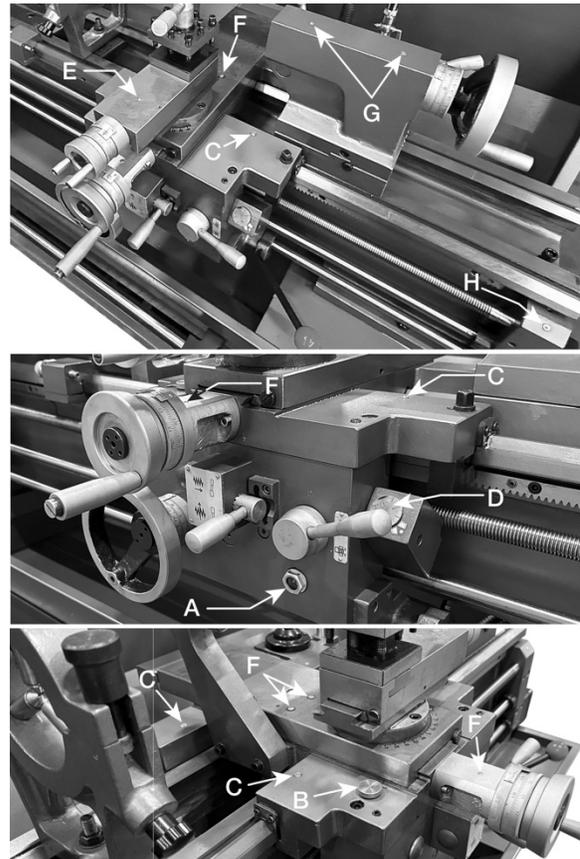

Figure 8-4
5. **Apron** - Oil must be up to indicator mark in oil level sight glass (A, Figure 8-4). Top off with Mobil DTE® Oil Heavy Medium. Fill by removing oil filling plug (B, Figure 8-4). Drain oil by removing drain plug located on the bottom of the apron. Make the first oil change after operating three months. Then, change oil annually.
6. **Carriage** - Lubricate ball oilers on both sides of the carriage (C, Figure 8-4) once daily with Mobil DTE® Oil Heavy Medium.
7. **Threading Dial Indicator** - Lubricate ball oiler (D, Figure 8-4) once daily with Mobil DTE® Oil Heavy Medium.
8. **Compound Slide** - Lubricate ball oiler (E, Figure 8-4) once daily with Mobil DTE® Oil Heavy Medium.
9. **Longitudinal and Cross Slide** - Lubricate ball oilers (F, Figure 8-4) once daily with Mobil DTE® Oil Heavy Medium.
10. **Tailstock** - Lubricate two ball oilers (G, Figure 8-4) once daily with Mobil DTE® Oil Heavy Medium.
11. **Leadscrew/Feed Rod** - Lubricate two ball oilers once daily (H, Figure 8-4) with Mobil DTE® Oil Heavy Medium.